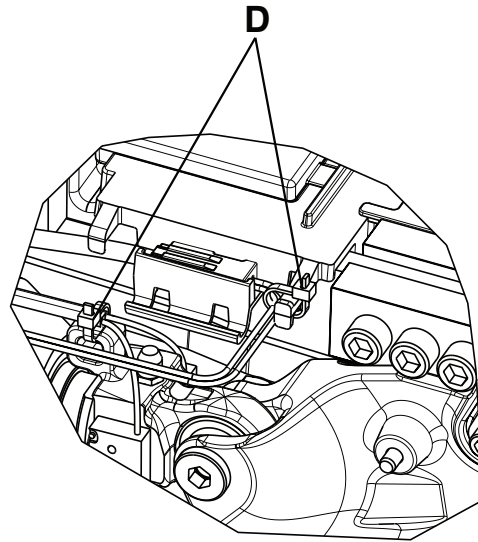

Figure 19 – Cable ties location
- Using diagonal pliers, cut the cable ties (D) that secure the hydraulic cylinder rod end assembly cable to the plastic cover (Figure 19).